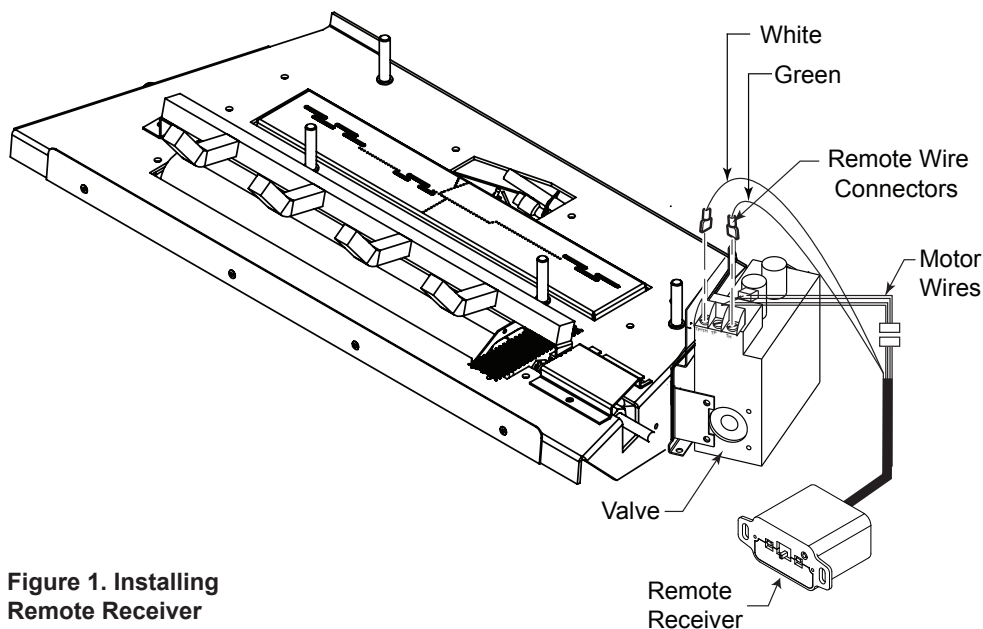

Figure 1. Installing Remote Receiver
4. Disconnect the two (2) female connectors for the log switch from the TP/TH and TH terminals on the control valve.
6. Connect the two (2) 1/4" female connectors to the valve. The white wire connects to the TP/TH terminal and the green wire connects to the TH terminal on the valve. See Figure 1.